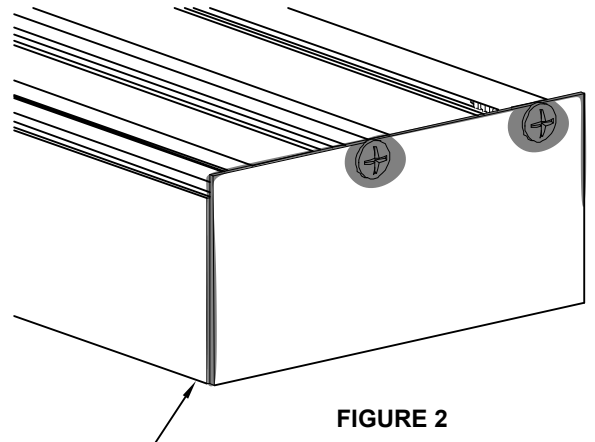

FIGURE 2
- STEP D:** Apply end dams to receptor with two 028856 (#12 x 11/8" PHTF) supplied screws, and seal over heads. Tool sealant along outside edges and inside corners between end dam and receptor. (Figure 2)